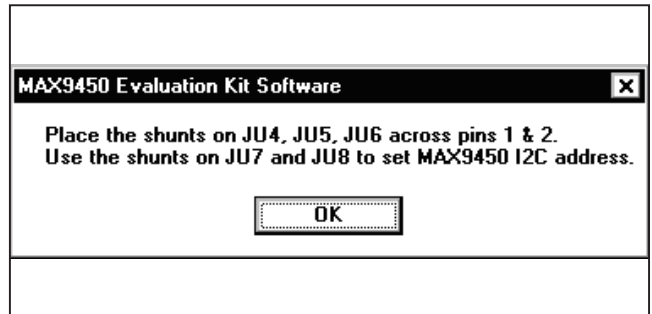

Figure 2. MAX9450 EV Kit Software—I2C Interface Notification Window
- 14) The **I2C** button allows you to evaluate the MAX9451 in I2C control mode. The **SPI** button allows you to evaluate the MAX9451 in SPI control mode. Click the **I2C** button. A small notification window appears, as shown in Figure 2.